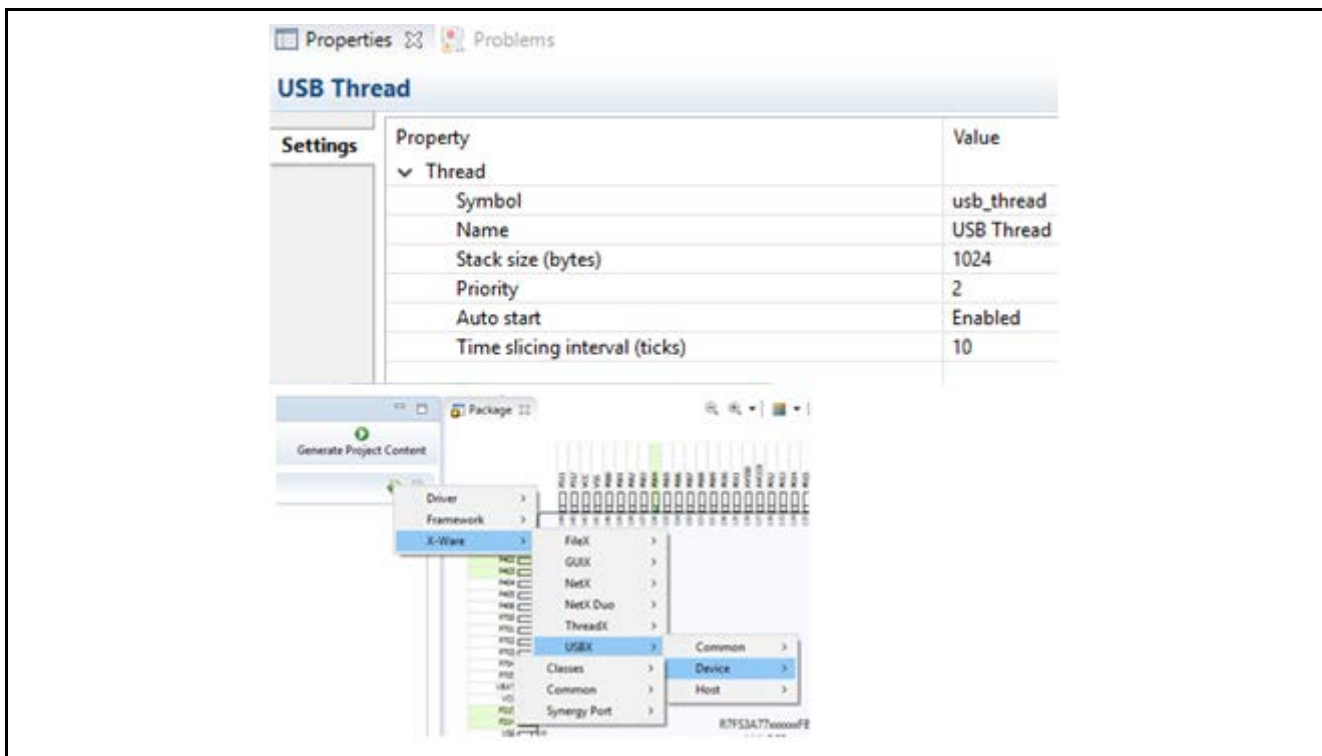

Figure 8. Adding USBX CDC ACM Device Framework Module
2. Set the property of this new thread (see Figure 8).